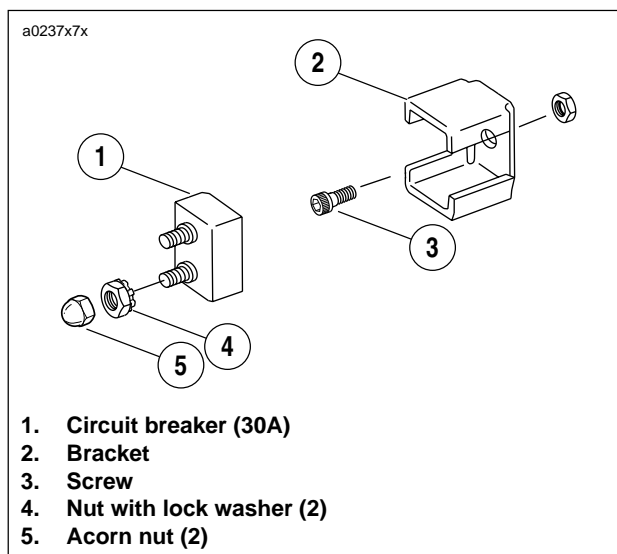

Figure 7-38. Circuit Breaker Installation
3. See Figure 7-38. Remove acorn nuts, nuts with lock washers and wire leads from circuit breaker studs. Tag wire leads for ease of assembly.